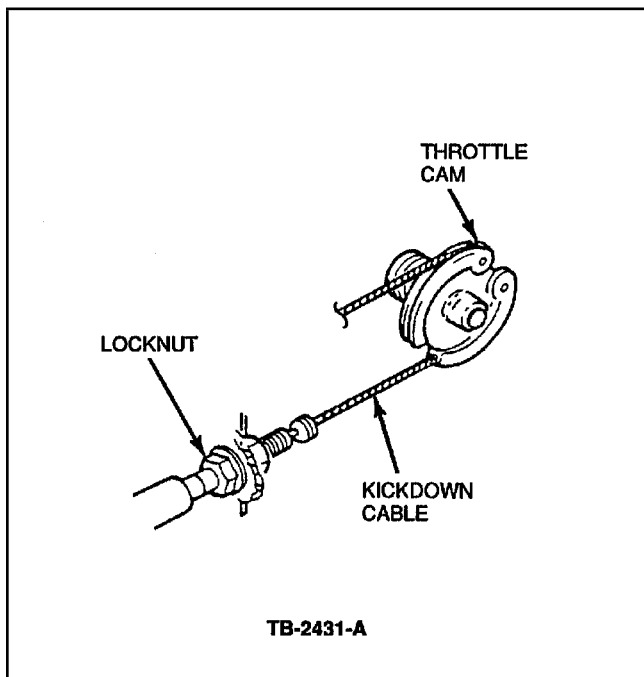

Figure 3 - Article 91-25-6
4. Turn the kickdown cable locknuts to the furthest point from the throttle cam (loosen the cable all the way). Refer to figure 3.